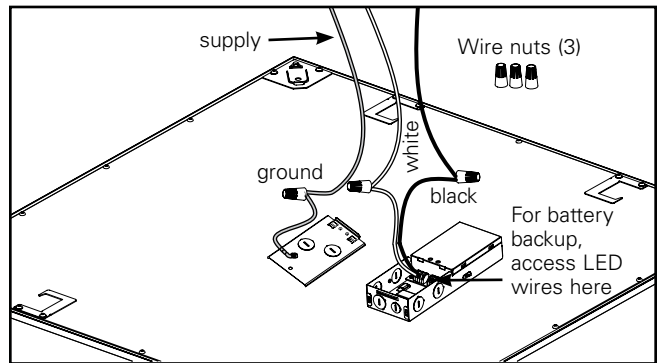

Figure 5.
7. Using the open knockout bring in the supply line. Using the three provided wire nuts to attach the ground wire to the ground supply wire, the black (line) wire to the black supply wire, and the white (neutral) wire to the white supply wire (Fig. 5).
NOTE: This fixture is compatible with battery backup systems including the Surelites EBPLED7W and EBPLED14W. If using a battery backup system remove driver cover plate to access LED load wires and follow battery backup wiring instructions (Fig. 5). Ensure driver cover plate is reinstalled after wiring.